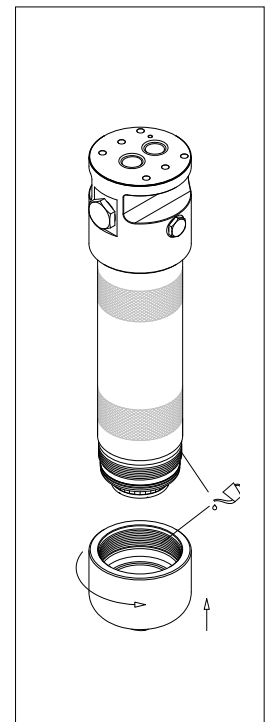

fig. 30
- (Fig. 30) Lubricate the thread and the O-ring of the bowl, then screw the bowl cover in referring to the tightening torque table in paragraph 3.